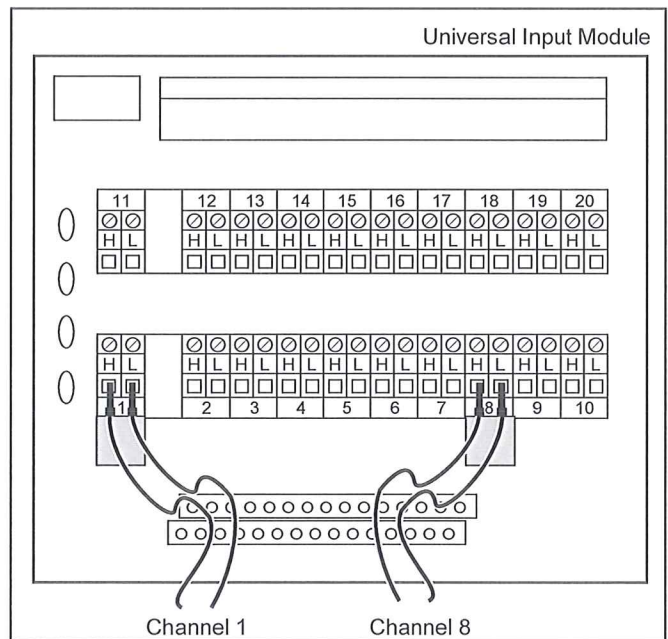

Figure 3. Completed 2638A-101 Installation (Typical)
6. Close the module cover, secure the locking cams and insert the module into the connector slot at the rear of the instrument until it latches into place (Figure 3).